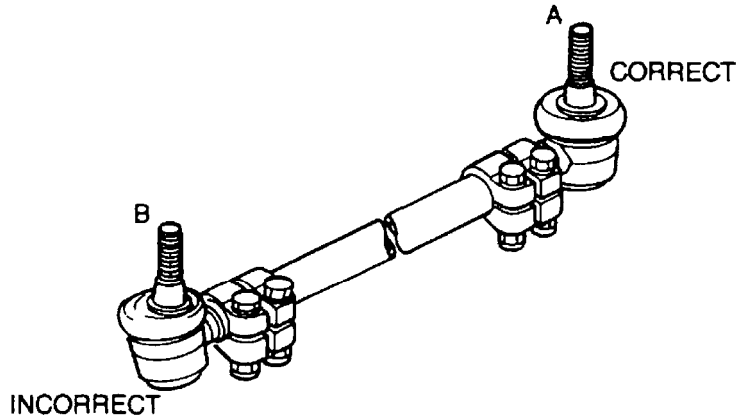

Figure 136 Tie Rod End Installation
When adjusting or renewing a tie rod it is important that the ball joints are assembled in the same angular plane and that the ball joint pins are central in their respective housings (A). Premature wear could result if the pins are inclined to one side (B) (Figure 136).